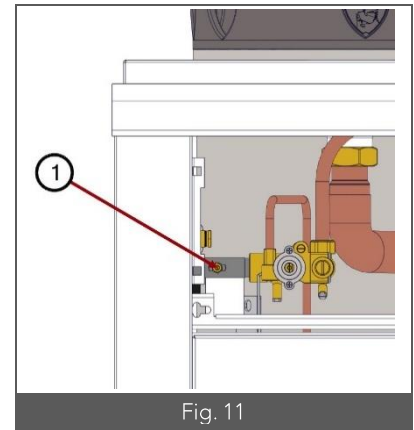

Fig. 11
- 1- Once the control panel has been removed, the gas manifold and the pressure gauge outlet (Fig. 11 – Item 1) are accessible.